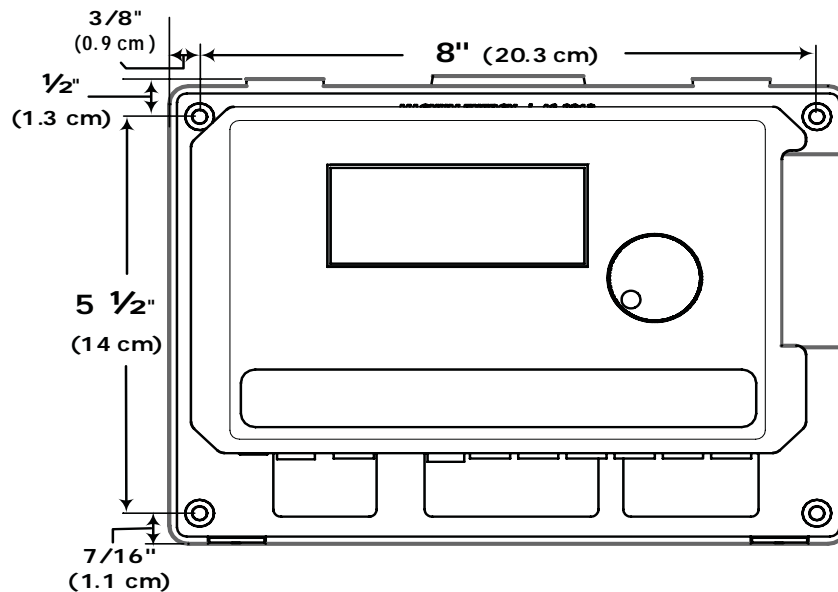

Figure 2-3, Router Mounting Holes
2. Mount the router base to the wall using the 4 screws provided. See Figure 2-3.